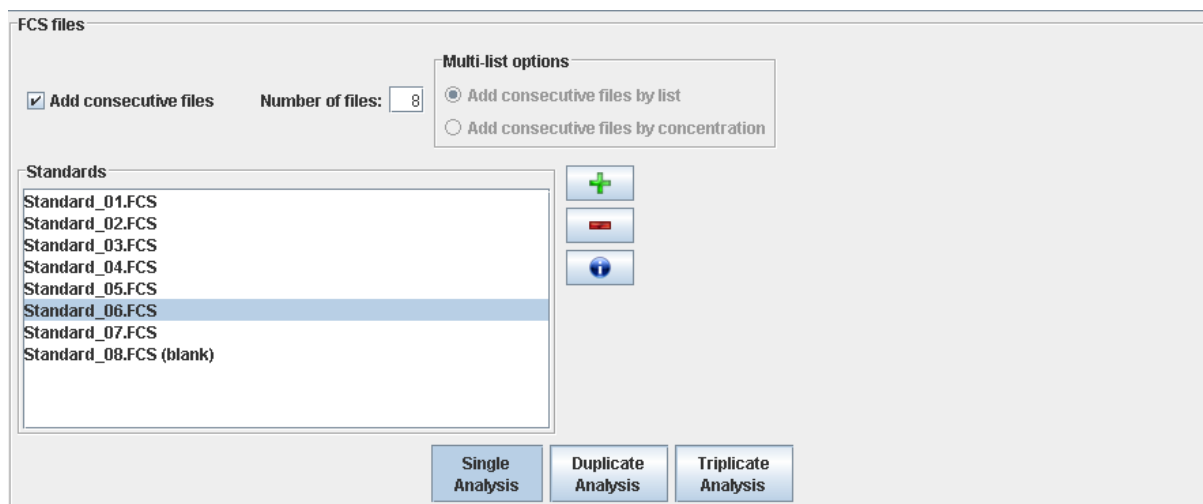

Figure 4: Add consecutive files selection
- i) Select the **Add consecutive files** by checking the box and insert the **Number of files** for your standard curve (usually 8). If the selected file's name ends with numeric characters, the software will automatically fill the list in the order in which they are named. E.g. select the Standard_01.FCS in the first table row and the following rows will select Standard_02.FCS...Standard_08.FCS, creating a complete standard curve from 7 standard files and 1 blank file (Figure 4).
Note: Standard curve data files need to be imported from the highest standard down to lowest with the blank file last. When naming files during FACS acquisition thought should be given to naming with numerical characters as the last digits to enable consecutive file addition (Figure 4.)